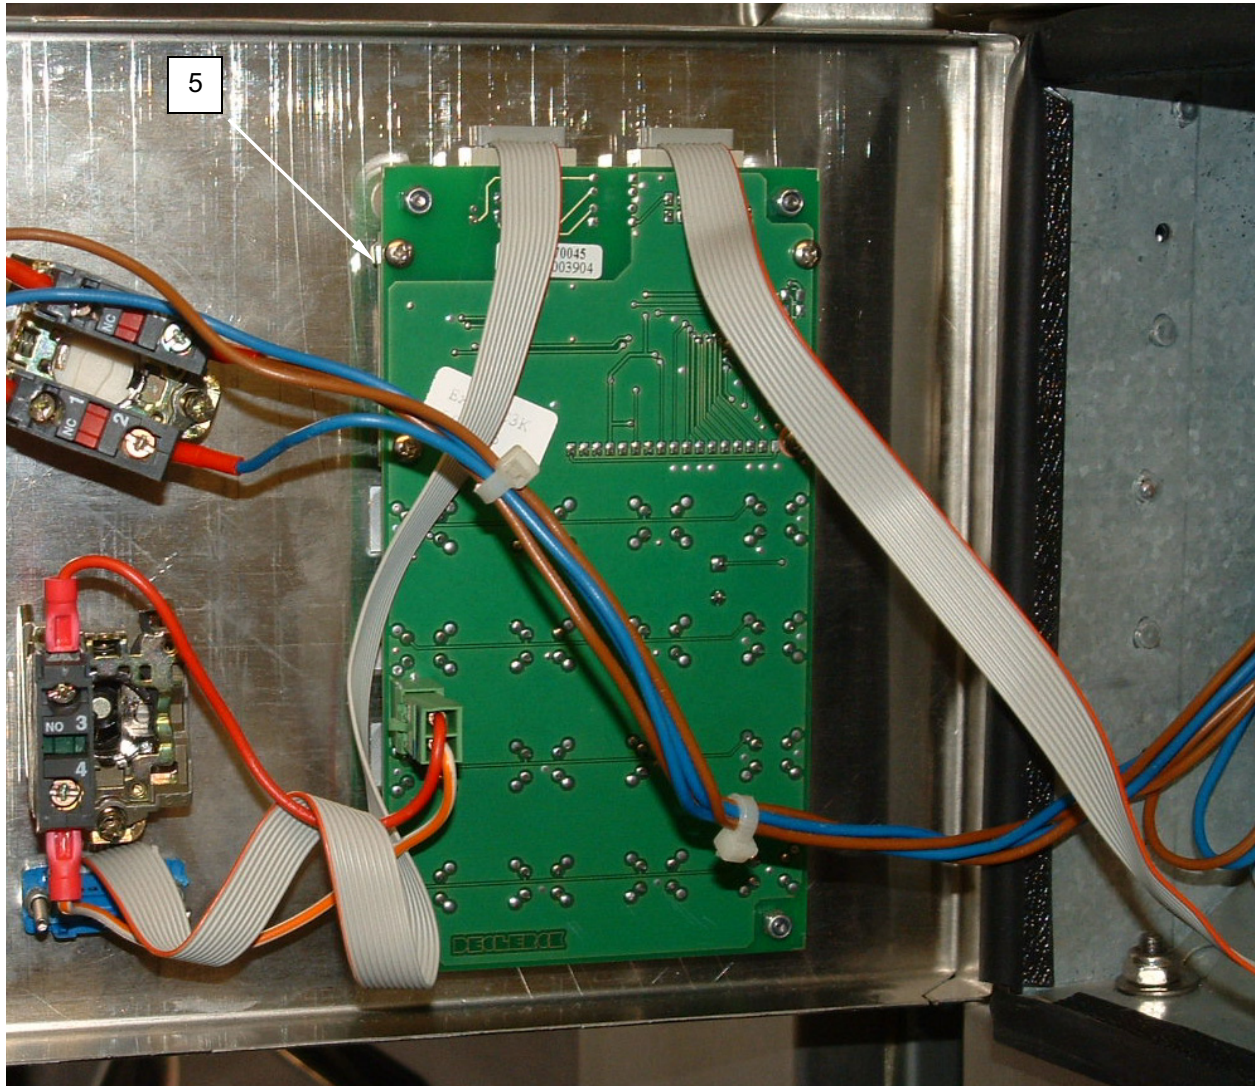

Figure 3. Replace the Microprocessor Display.
3. Tag and disconnect wiring from display (**Figure 3, Item 5**).
4. Remove screws retaining display (**Figure 3, Item 5**) and remove display.
5. Install replacement display (**Figure 3, Item 5**) and retain with screws.